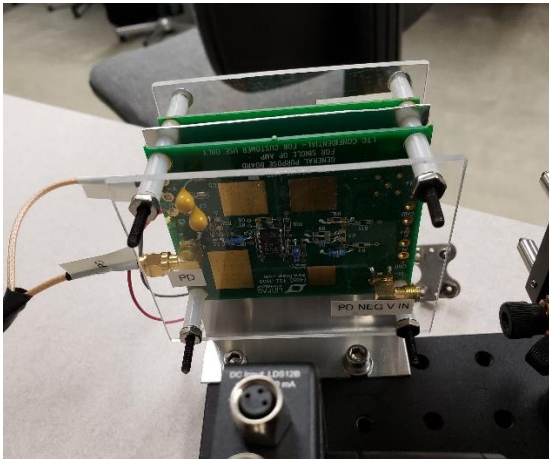

Figure 4: Photo Diode (PD) Connection
- a. Attach the PD side to the PD SMA connection (Figure 4 below)